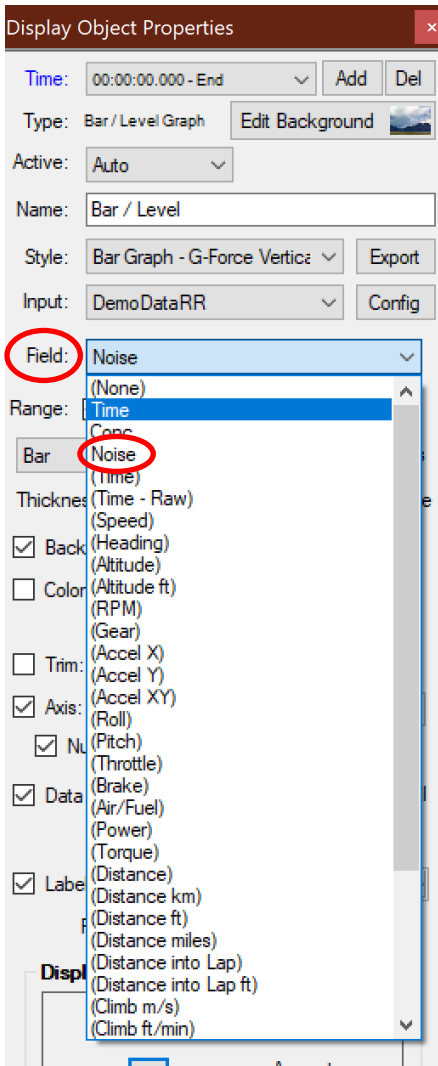

Figure 25 Display Object Properties screen
6. When the Display Object Properties box is open, find the pull down option called Field or Field Y (Figure 25) and select your desired field. By closing out this window (x'ing out), you will save your setting. You will also notice many, many auto racing variables that the system is looking for. You can ignore these, unless you are racing cars or motorcycles.